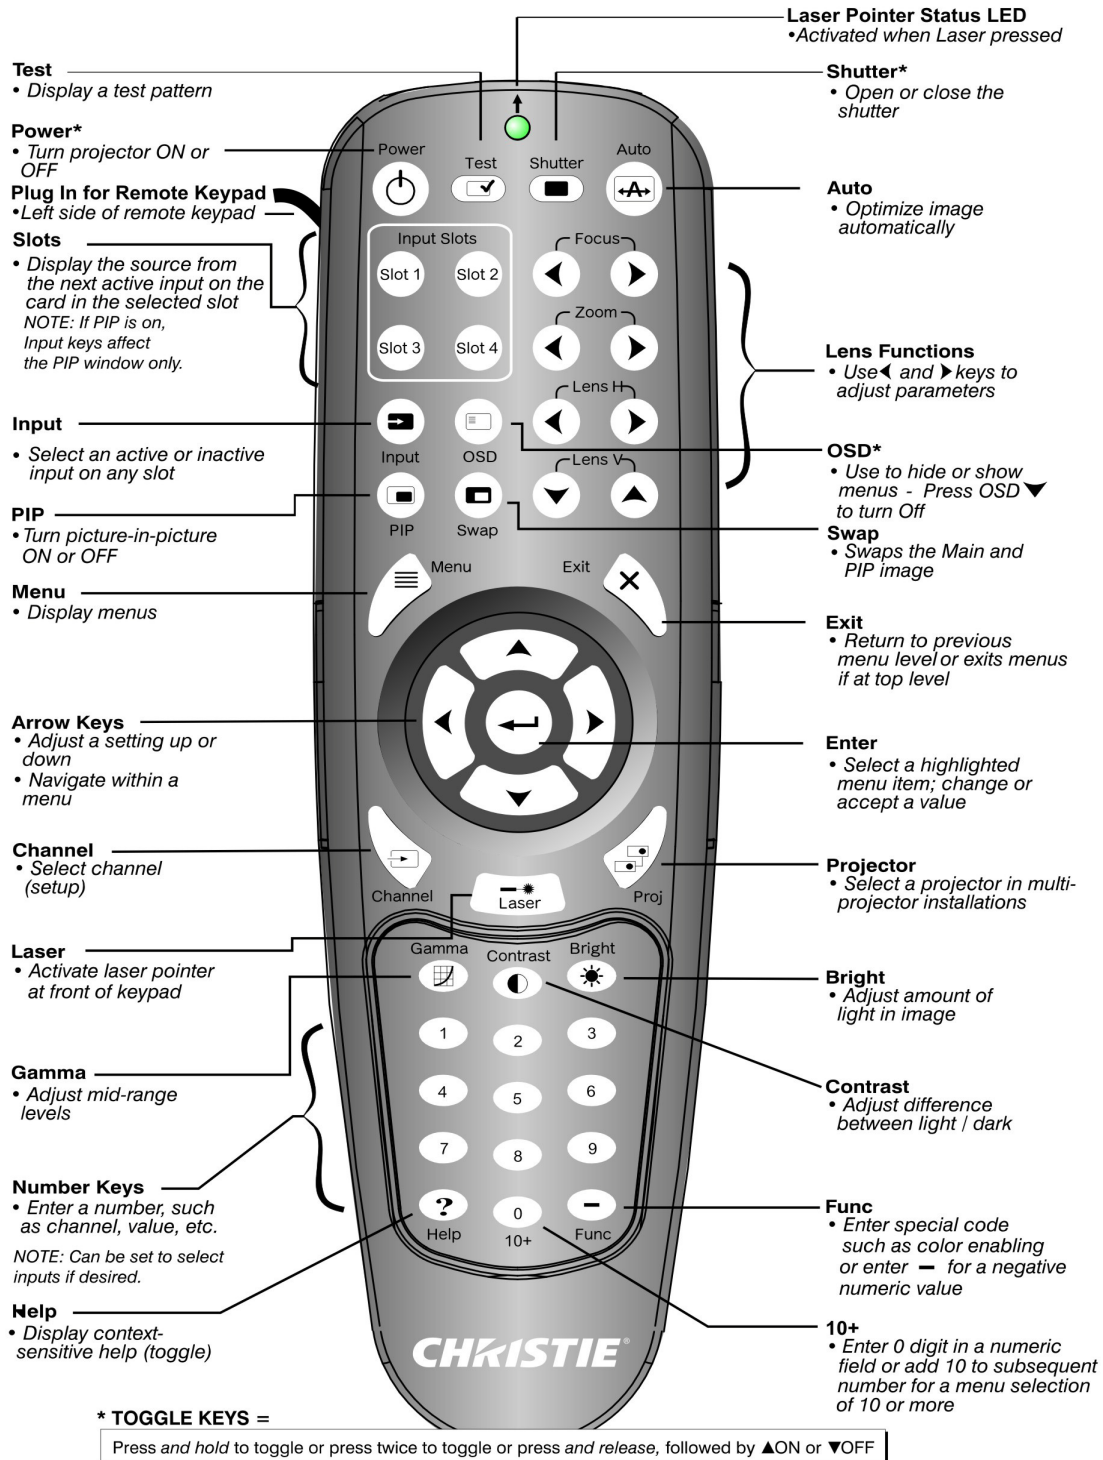

FIGURE 3-1 REMOTE KEYPAD
- **Remote Keypad:** For wired or wireless control up to 25 feet (8 m) away (includes cable for use as a wired remote). The remote keypad controls the projector by way of wireless communications from a battery-powered infrared (IR) transmitter. Use the remote keypad the same way you would use a remote keypad supplied with a TV or VCR. When pressing a function key, direct the keypad toward the projector’s front or rear IR sensor. One of the two IR sensors on the projector will detect the signal and relay the commands for internal processing. A laser pointer is built into the remote keypad. See Figure 3-1 Remote Keypad.
**NOTE:** Use **POWER SHUTTER** and **OSD FUNCTIONS** by doing one of the following: “press-and-hold” (2 seconds) or press twice quickly, followed by pressing either the **UP ARROW KEY** to switch on or the **DOWN ARROW KEY** to switch off once. See Figure 3-1 Remote Keypad.